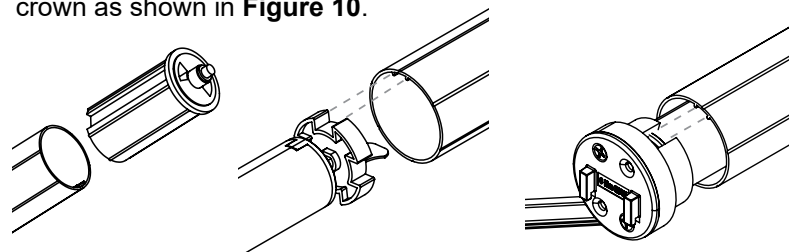

Figure 10. Insert the Heavy Duty End Pin and Motor Assembly.
Step 7. Insert the heavy duty end pin (and tube adapter where required) and the motor assembly into the roller tube. Make sure to line up the tabs on the tube with channels on the driver and crown as shown in **Figure 10**.